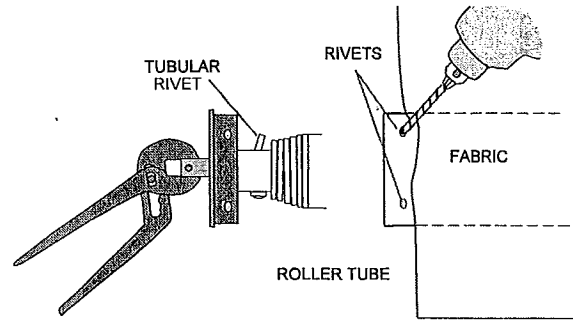

Figure A4
4. Remove Spring Assembly (Fig. A4)